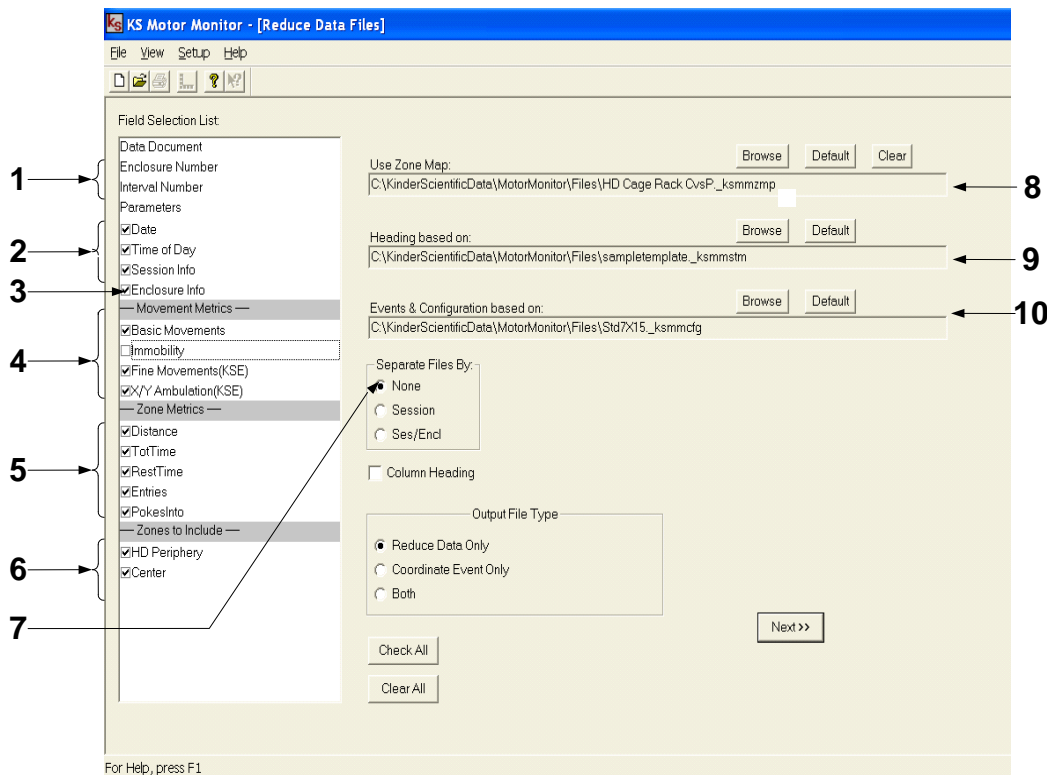
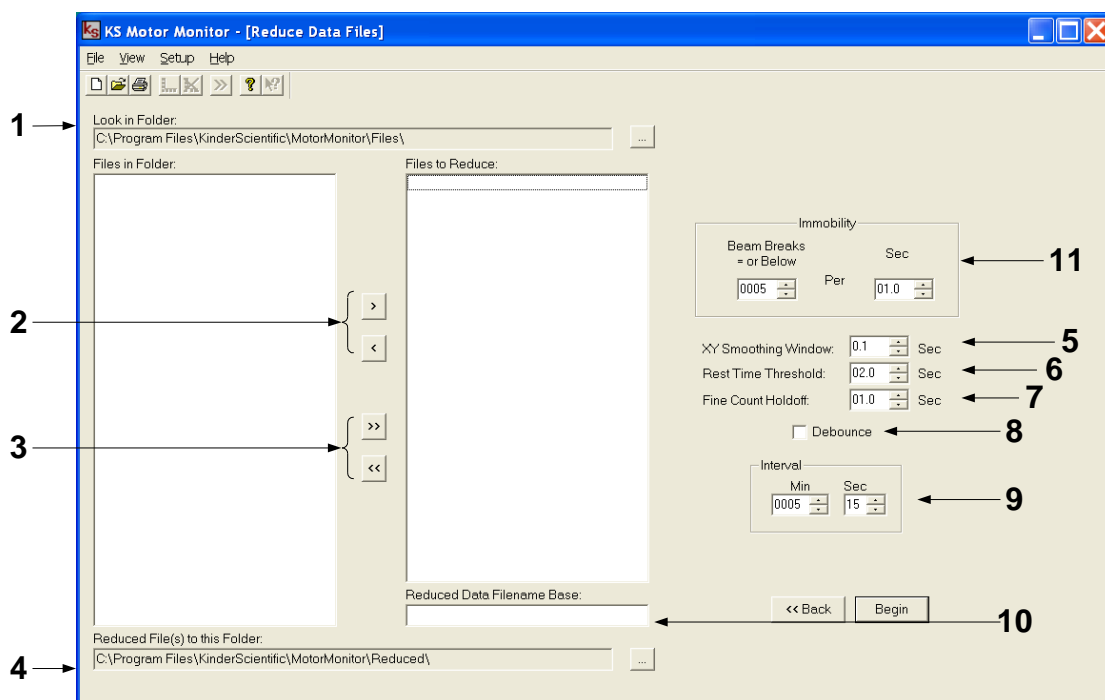

Figure 3-6. File Reduction “Reduced Fields” Screen
Figure 3-7. File Reduction “Reduced Files” Screen
3.3.1 Controlling the Output File The first of the two screens used in data reduction determines all measurement variables (**Movement Metrics, Zone Metrics, Zones to Include**, etc.) to be included with a reduced session file (Figure 3-6). The second screen (Figure 3-7) determines which file or files to reduce and where they are to be stored.
The files that were selected in this example are shown in Figure 3-7, in the **Files to Reduce** list. Another way to create the list is double click each file. Each double click automatically moves that file to the **Files to Reduce** list. If you make a mistake and move a file that you actually do not want on the list, simply click on the file in the list and then click the left chevron. The two double chevrons move all files back and fourth. These features are described in Figure 3-7 and the references that follow.